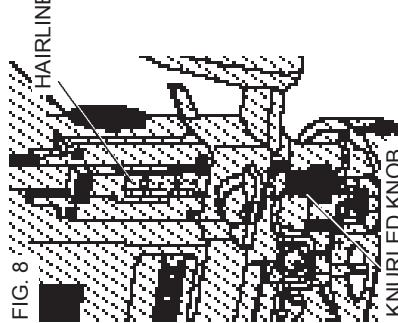

FIG. 8
7. Raise or lower the plastic vernier to align the hairline in the vernier with the 0 mark on the graduated scale, as shown in Figure 8.
If, after setting the desired depth of cut, a small adjustment is needed, it is not necessary to go through the entire procedure for setting the depth. Minor adjustment can be easily made by rotating the knurled knob on the bottom end of the depth stop bar, as shown in Figure 8.